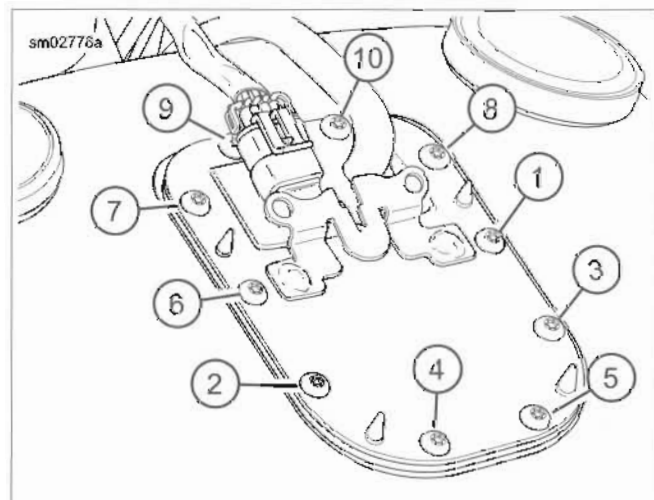

Figure 4-48. Top Plate Torque Sequence
- Attach hoses (1, 3) to filter housing (2).
- See Figure 4-48. Install new screws and tighten using the pattern shown, to 18-24 in-lbs (2.0-2.7 Nm).